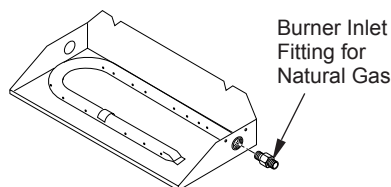

Figure 13 - Remove Burner Inlet Fitting
4. Using thread sealant (resistant to the action of propane/LP gas) on larger end of fitting, screw burner inlet fitting through hole and into burner manifold (see Figure 13). Tighten using a wrench.